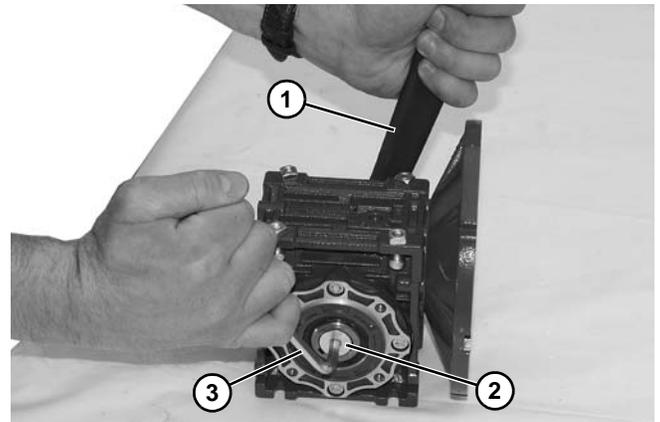

Figure 23
- Hold the driveshaft with a wrench (**Figure 23, item 1**) as shown to keep shaft from turning, while removing screw (**Figure 23, item 2**) with hex wrench (**Figure 23, item 3**).
Output shaft (**Figure 23, item 1**) is held in Gear Reducer with a tapered press fit. Removal may require use of an arbor press.
- Hold the driveshaft with a wrench (Figure 23, item 1) as shown to keep shaft from turning, while installing screw (Figure 23, item 2) with hex wrench (Figure 23, item 3) Tighten screw to 350 in-lb (39.5 Nm).